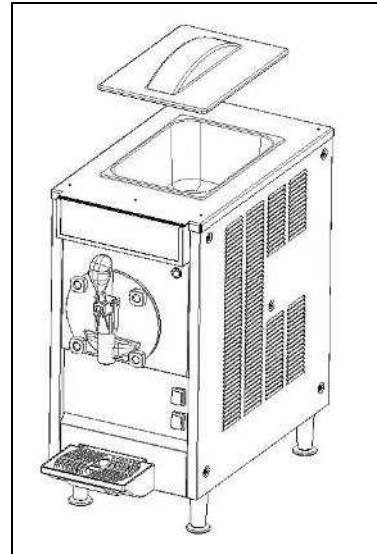

Fig. 11
- Remove the cover as shown in fig. 11.